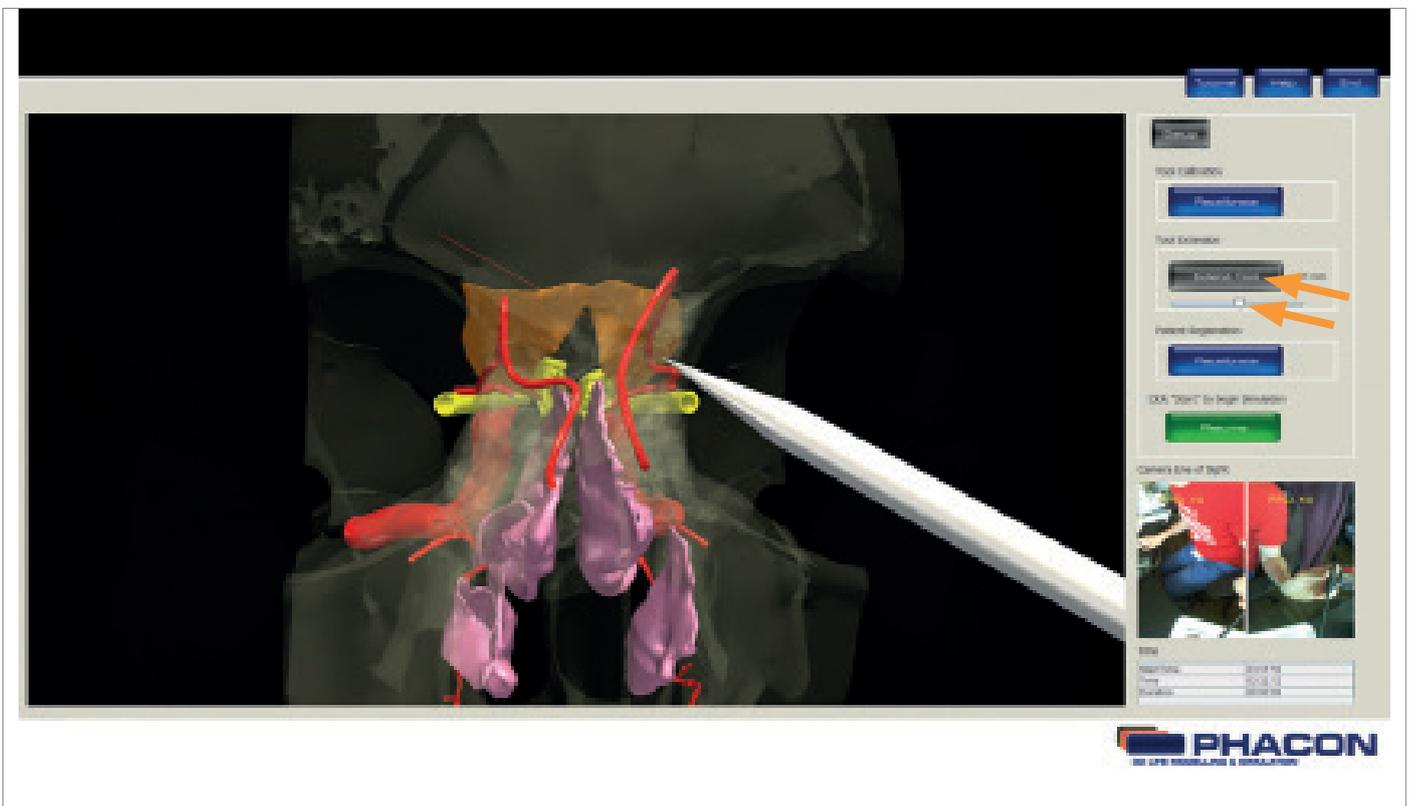

Fig.: 11
- To virtually extend the tool in the 3-D windowpane, click on the EXTEND TOOL button and move the slider to variable extend the virtual tool extension, shown as a red line in the 3-D windowpane (Fig. 11).